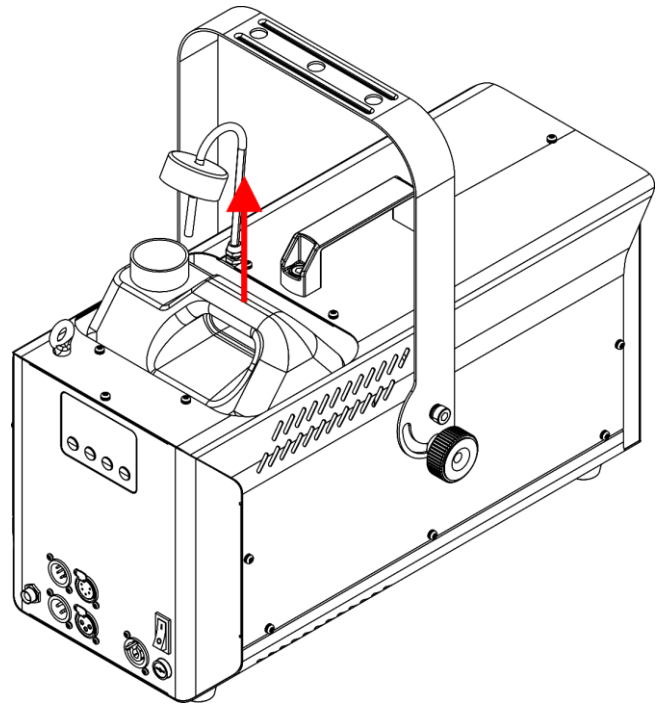

Fig. 09
- 03) Take out the fluid tank, as shown in Fig. 09.